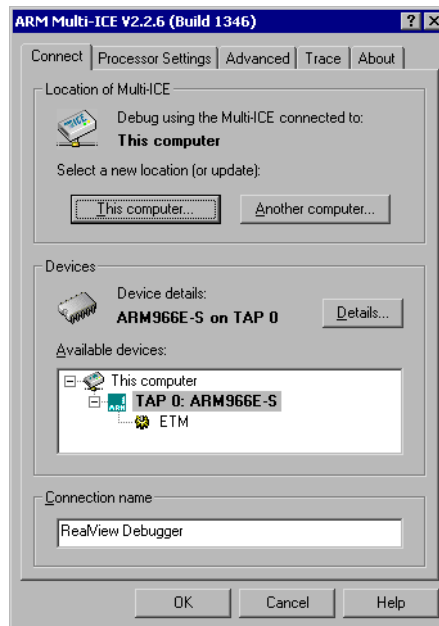

Figure B-2 ARM Multi-ICE configuration dialog box
8. Right-click on the Multi-ICE target and select **Configure Device Info...** from the context menu to display the ARM Multi-ICE configuration dialog box, shown in Figure B-2 on page B-4.